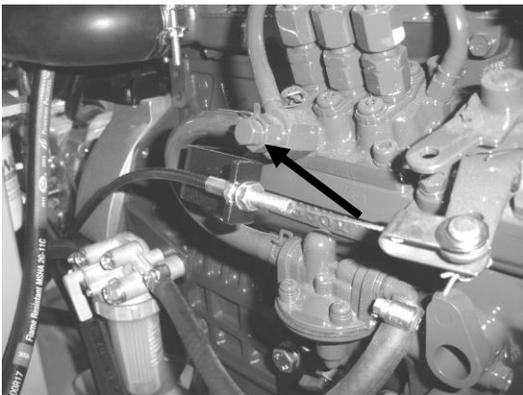

Figure 3—Injection pump bleed screw.
4. Loosen the bleed screw on the fuel injection pump approximately one turn. See **Figure 3**.